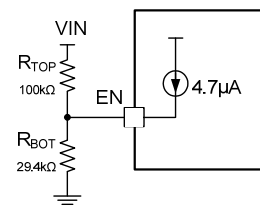

Figure 5: V_{IN} UVLO Program
The MPQ4210 features a programmable UVLO hysteresis. When powering up, EN sources a 4.7μA current out of the EN pin (see Figure 5) once the EN voltage is higher than 1.35V. V_{IN} must decrease to overcome the current source and stop switching after the IC starts. The V_{IN} start-and-stop switching threshold is determined with Equation (1) and Equation (2):